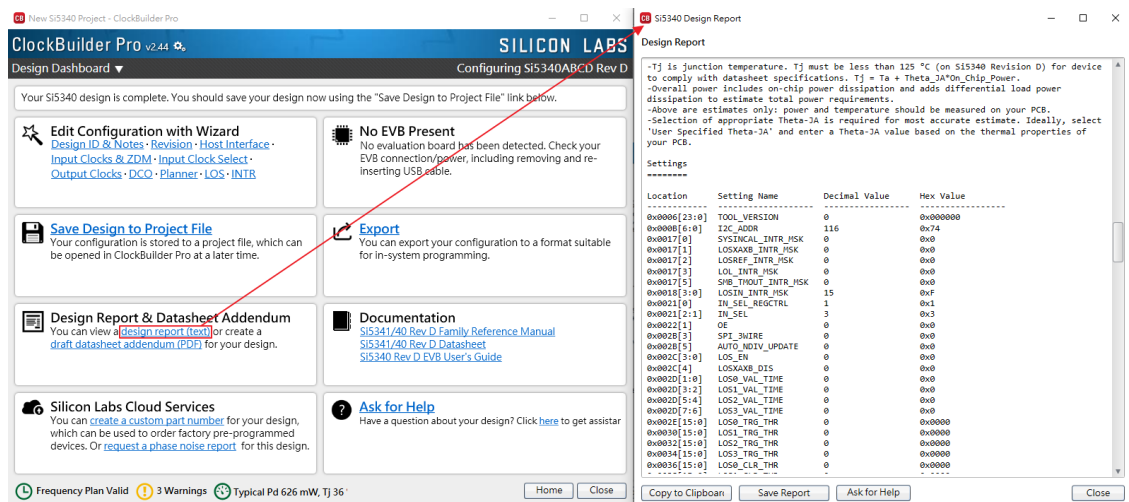

Figure 5-5 Open Design Report on ClockBuilder Pro Wizard
- After the setting is completed, ClockBuilder Pro Wizard generates a Design Report(text), which contains users setting frequency corresponding register value (See **Figure 5-5**).